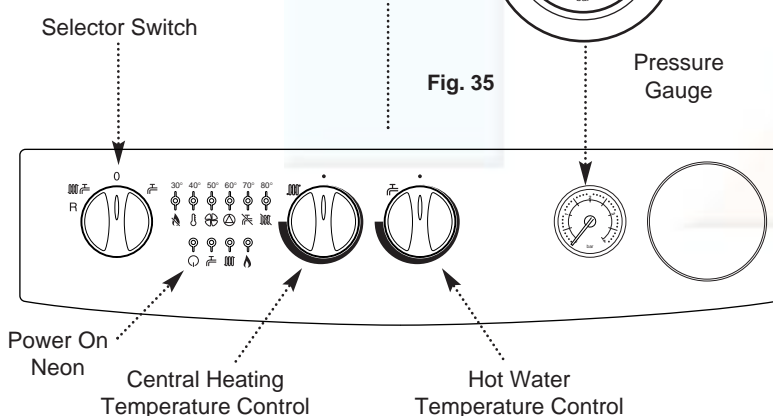

Fig. 36
2. Set the temperature controls to maximum and the selector switch to the Off position (Fig. 36).
6. Turn the selector switch to the Central Heating and Domestic Hot Water position (). The power On neon () will illuminate (Fig. 36).